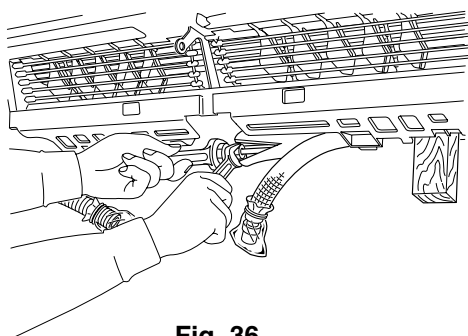

Fig. 36
- (3) Disconnect the flare nut for wide tube by 2 wrenches. (Fig.36)